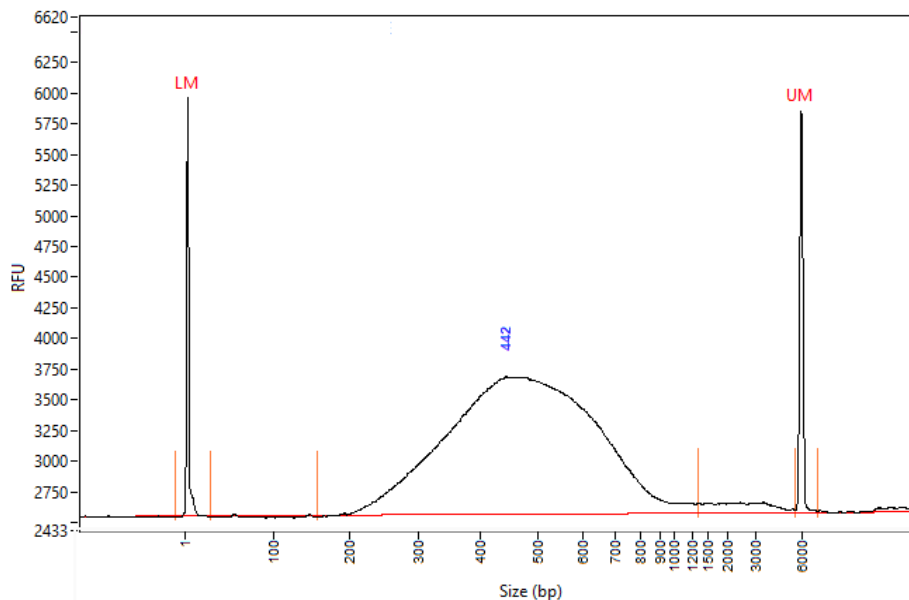

Figure 2. Electrophoresis diagram detected by Fragment Analyzer with the main peak ranging from 200-800 bp and the maximum at 442 bp.
2. Additionally, determine the fragment size profile (e.g. with instruments such as TapeStation, Bioanalyzer or Fragment Analyzer) to check for appropriately fragmented and adapter ligated DNA. A typical library displays a single peak between 200-800 bp with the maximum at ca. 350-450 bp (see Figure 2). The profile of FFPE DNA can normally have a smaller and narrower main peak.